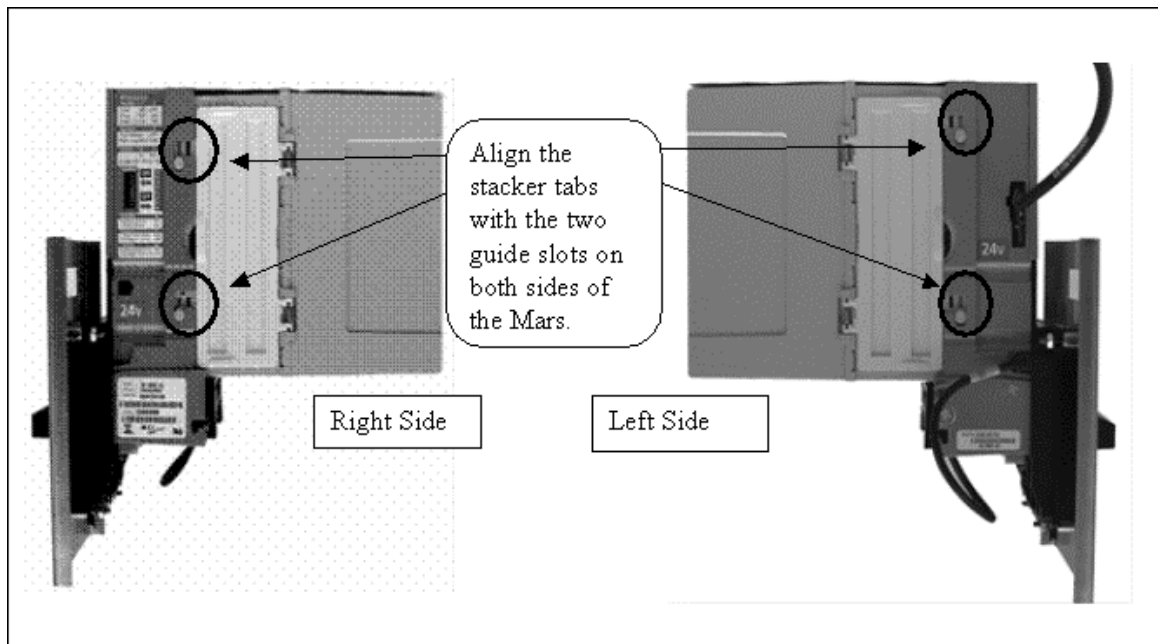

Figure 8. Mars Bill Stacker Replacement
3. Slide the stacker tabs into the guide slots, and then down until it is fully seated, as shown in Figure 8.